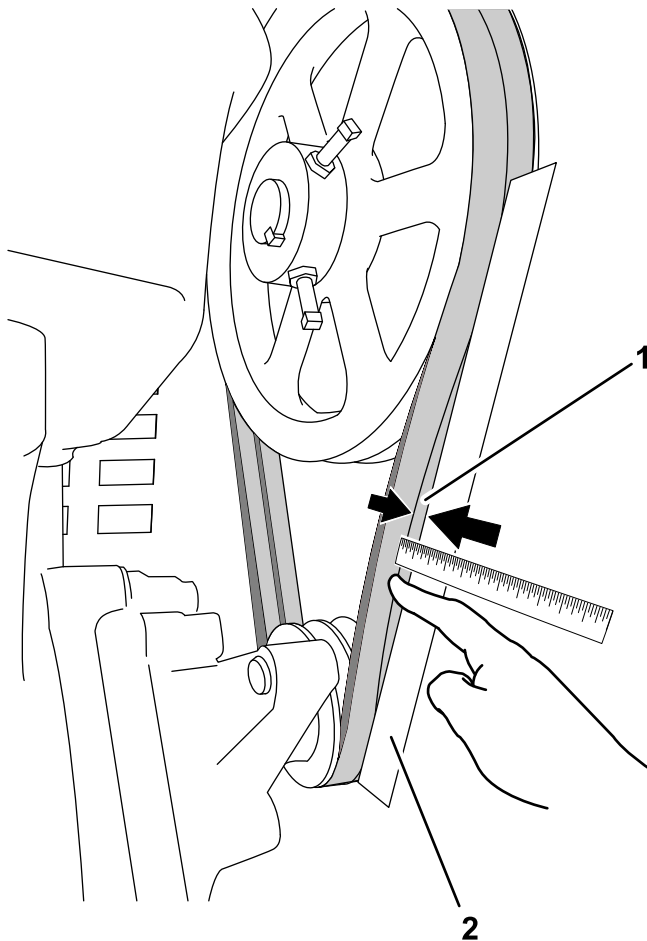

Figure 54
The drive belts should each have 1 cm (13/32 inch) of flex when applying 6.8 kg (15 lb) of pressure at mid-span (Figure 54).
2. Lay a straightedge along the drive belts, from one pulley to the other (Figure 54).
3. With your finger, push on the belt with 6.8 kg (15 lb) of pressure, midway between the pulleys (Figure 54).
4. Measure the distance from the belt to the straightedge. The distance should be approximately 1 cm (13/32 inch); refer to Figure 54.